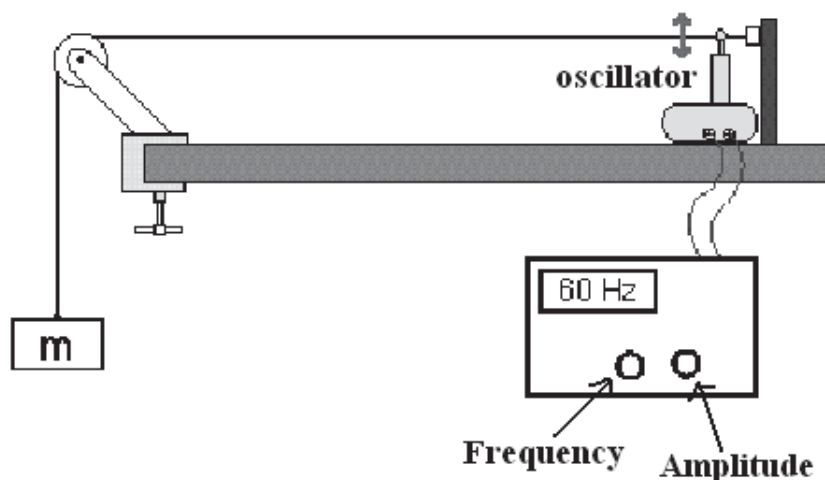

Figure 9.3: Diagram showing the experimental apparatus.
5. Measure the **total** length of the **stretched** string,  $l_s$ , with your mass system hanging on the end and record it in your data sheet. In this case, the string changes directions as it passes over the pulley as shown in Fig. 9.3. Choose an uncertainty for  $\delta l_s$  that includes both the uncertainty associated with reading the meter stick and the uncertainty of aligning the meter stick with the string.
- Position the oscillator near the fixed end of the string and adjust the oscillator to "Hz 1-100" as shown in Fig. 9.3.